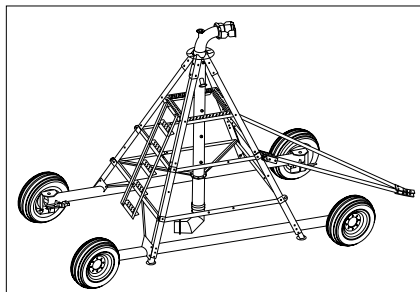

Figure 24-4 4 Wheel EZ- Tow Pivot
- 4 Wheel EZ-Tow Pivot With Fixed Wheels Option. See figure 24-4.
- 4 Wheel EZ-Tow Pivot With Swivel Wheel Option. See figure 24-4.